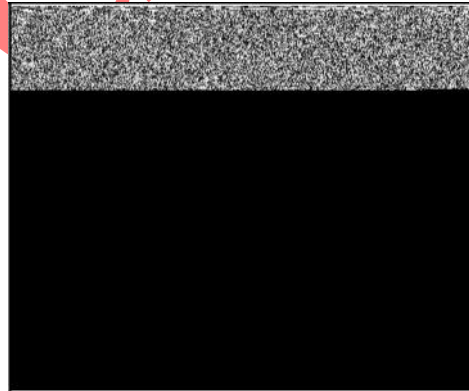

Figure 10
6. Tighten screw closest to piston (**A**, Figure 10) first, then screw farthest from piston (**B**) second. Torque screws to values listed in Section 12 - Engine Specifications.